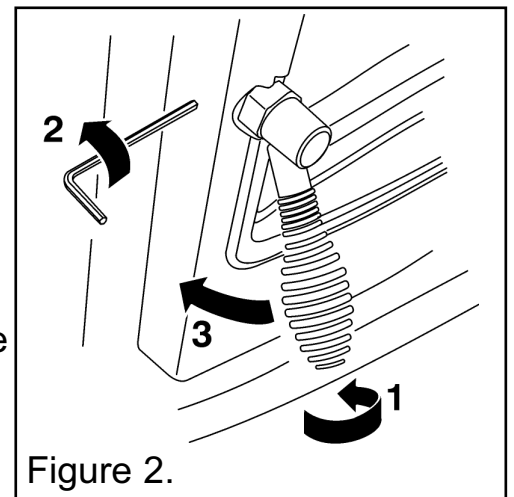

Figure 2.
**NOTE:** The door is secured with a locking bolt and Hex nut. To open the door use a 3mm Allen key to loosen the hex nut on the side of the door, being careful not to remove it completely. Ref to Figure 2.